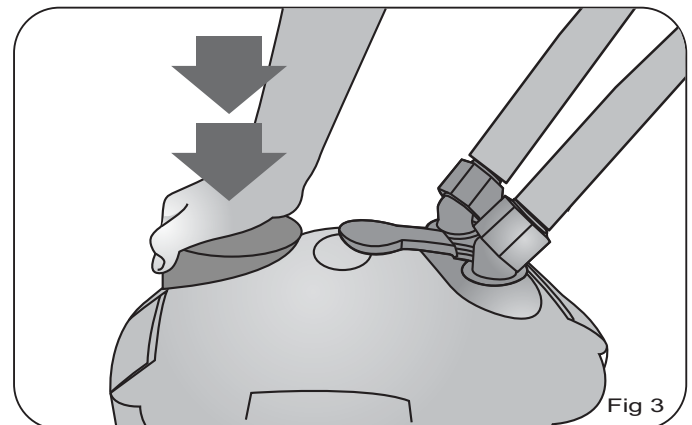

Fig 3
5. Remove the filter media baskets from the canister. Fig 3
4. Now push the locking lever down. Ensure the tap connector is inserted correctly. Fig 3
2. Press the primer down with your your palm Fig 3